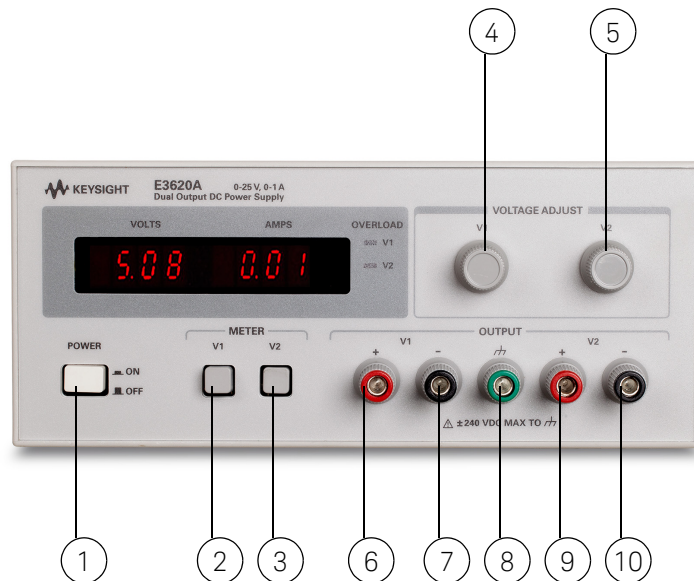

Figure 1-2 Front-Panel Controls and Indicators
The LINE pushbutton switch (①, Figure 1-2) is pushed-in to turn the supply ON and released (out position) to turn the supply OFF.
The following steps describe the use of the Model E3620A front panel controls illustrated in Figure 1-2 and serve as a brief check that the supply is operational. Follow this checkout procedure or the more detailed performance test of service information section when the instrument is received and before it is connected to any load equipment. Proceed to the more detailed performance test beginning in service information section if any difficulties are encountered.